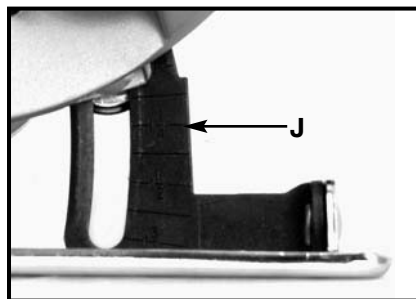

Fig. 10
**NOTE:** The depth adjusting segment (J) Fig. 10 is marked in 1/8" increments. Aligning the required marking with the lower edge of the housing will produce the approximate depth of cut desired.